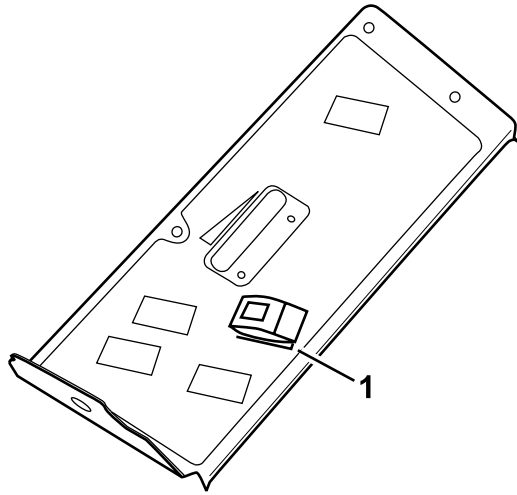

Figure 18
- The **hazard warning switch** operates the hazard warning lights and will work whether the ignition is switched to the ON or OFF position (Figure 18).